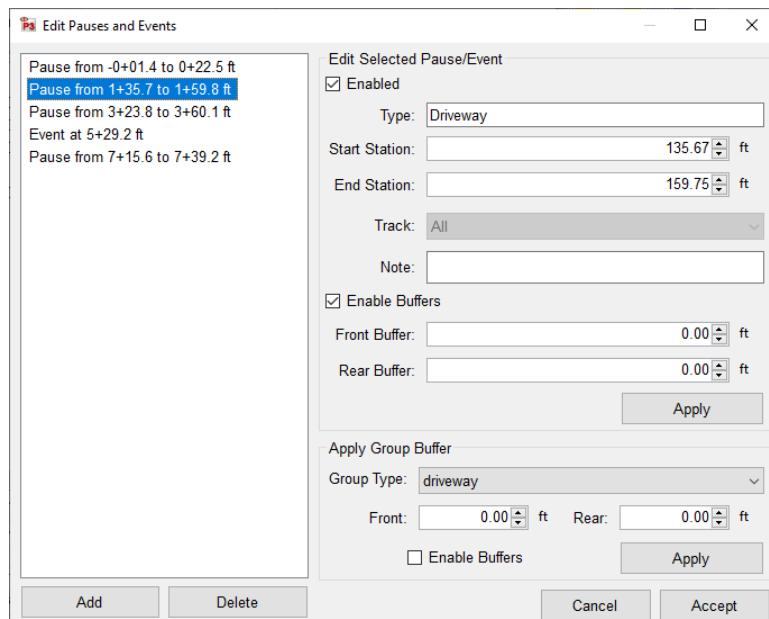

Figure 86. Edit pause and events window
1. Select the pause or event to be edited in the left column list. It is selected when the blue bar is highlighted the Pause/Event title. See figure 86.
1. Select the 'Add' button under the Pause/Default list in figure 86 above.